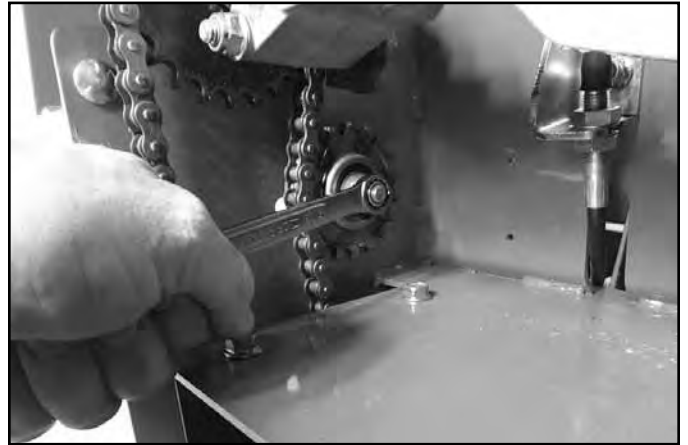

Fig. 099
9. Loosen the drive chain idler sprockets on each side of the unit (Fig. 099).